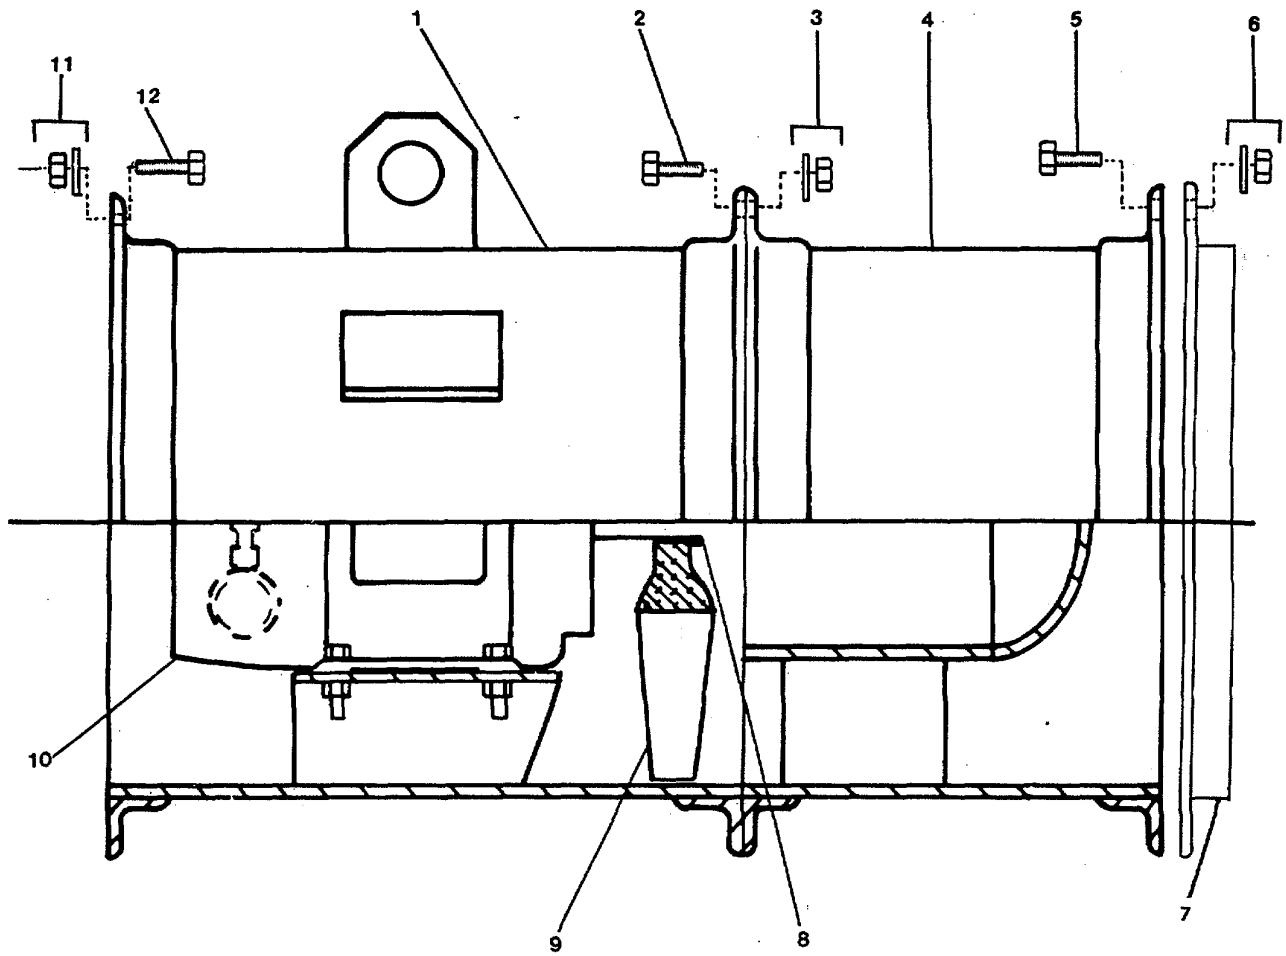

Figure 3-8 . Ventilating Fan (Supply Fan #3) .
- (1) Turn electrical power ON.
- (2) Start and run heater to check operation.
- (3) Remove "Out of Service" tag from circuit.
**3-17. Repair Fan, Ventilating (Supply Fan #3). (FIGURE 3-8)**